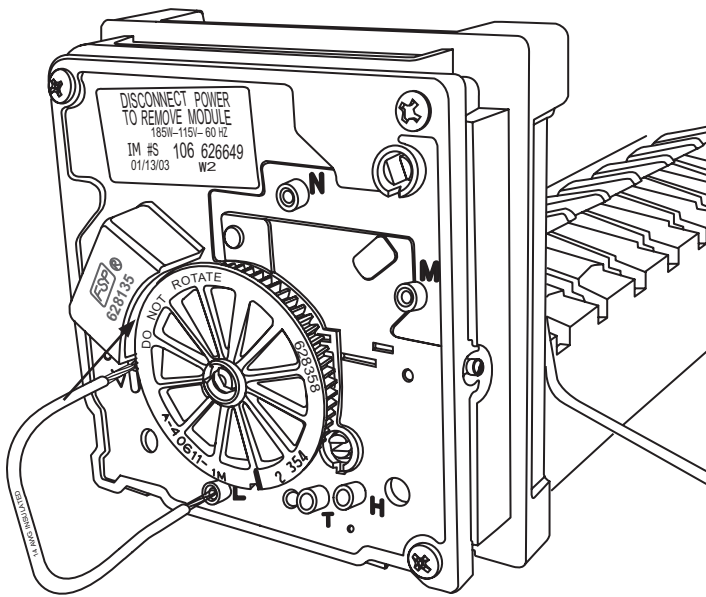

Figure 9-11. —Jumpering test points V and L.
4. Insert one end of the jumper in test point V and the other in test point L. See Figure 9-11, page 74.